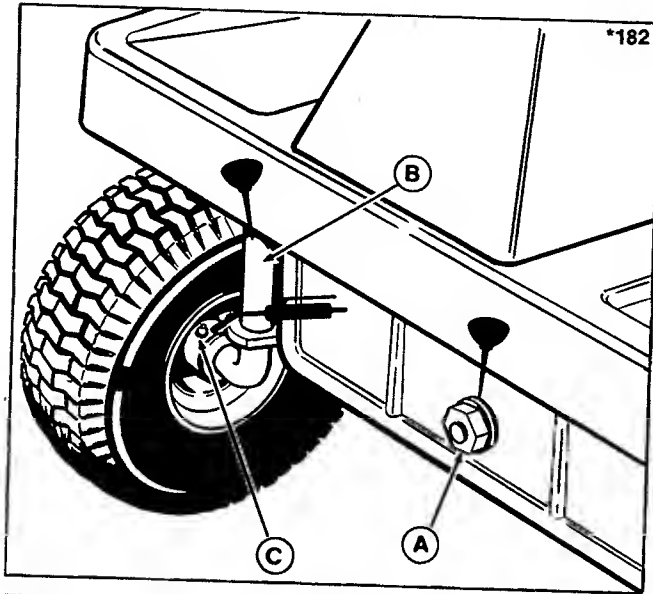

Figure 3. Front Axle Lubrication
2. With an oil can, lubricate the front spindles (one on each side) and mid pivot point (figure 3).
3. With a grease gun, apply one or two shots of lithium based automotive grease to the two grease fittings (one in each front wheel). See figure 3.